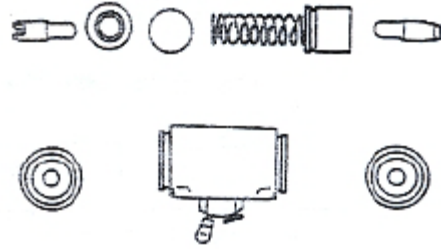

Figure 6
(6) Remove the E-shaped retaining ring for the brake cable on the brake base plate, then remove the bolts that mount the brake base plate and remove the brake base plate from the drive axle. Figure 6